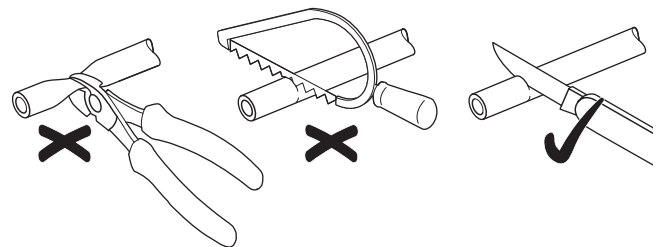

Fig. 46
- Use a sharp knife to shorten the fuel line and do not squash the hose (Fig. 46).